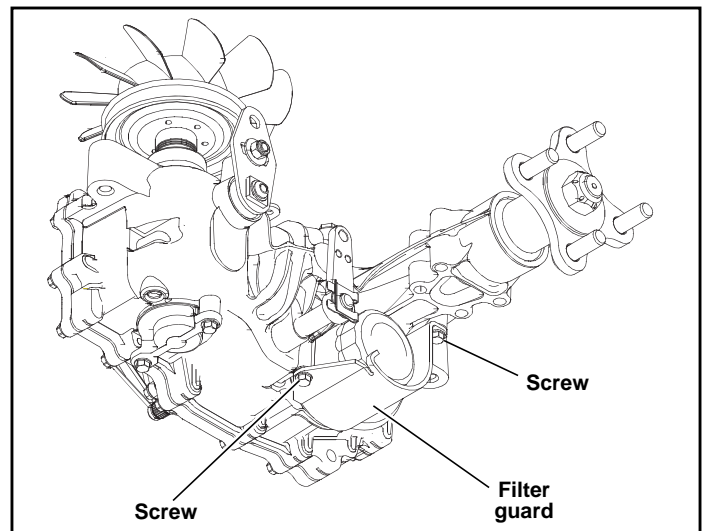

Figure 4-10
2. Remove the three 1/4" filter guard screws and filter guard. Clean any loose debris from around the filter. Figure 4-10
6. Re-install the filter guard with three 1/4" screws. Torque the screws to 65 in.-lbs. each. Figure 4-10